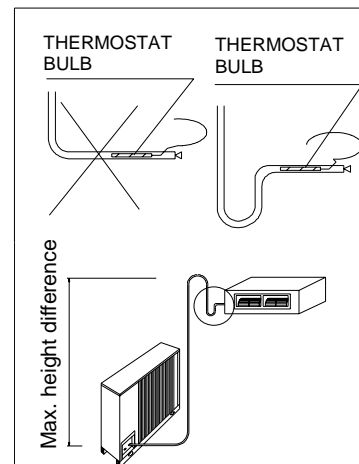

Figure 4
- If the condensing unit is lower than the evaporating unit (see figure 4), install a drain trap of equal height to the exchanger coil, so as to prevent the return of liquid to the compressor when the unit is off.
- If the terminal unit is fitted with a thermostat as well as a drain trap, install a socket (see Figure 4) as near as possible to the unit. This will prevent the bulb of the thermostat from remaining in contact with the liquid when the unit is off (see Figure 4). In the case of connection to our CED-V, CN-V terminal units, the drain trap is already fitted inside the unit.